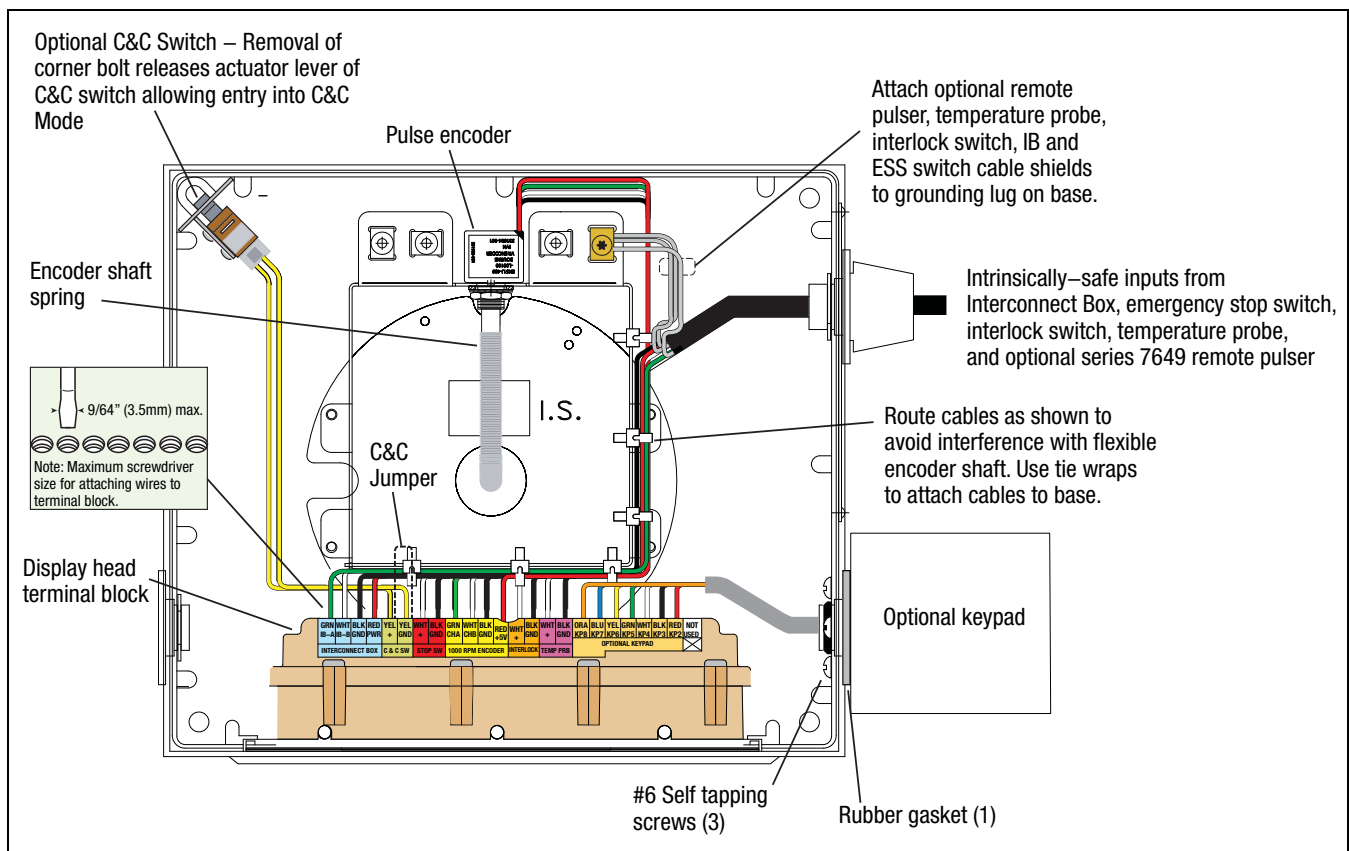

Figure 20. Display Head Cable Connections
10. Look at the base of the Display Head. Locate the Encoder Drive Spring (see Figure 20). Pull/slide the encoder spring off of the encoder shaft.
2. Slide the cord grip nut and then the bushing over the IB cable leads. Pull enough cable through so that the leads reach the terminal block on the display assembly and can be tie wrapped to the pulse encoder mounting base as shown in Figure 20. Slide the tapered end of the bushing into the cord grip, then screw on the cord grip nut and tighten securely.
3. Attach the four-wire IB cable to the terminal block where shown in Figure 20. Attach the drain wire of the IB cable to a grounding lug on the Pulse Encoder mounting base.
4. If you have the optional temperature probe and/or ESS switch, remove the lower cord grip nut and slide it, then the tapered bushing, over the temperature probe and/or ESS switch cable. Pull enough cable through so that the leads reach the terminal block on the display assembly and can be tie wrapped to the pulse encoder mounting base as shown in Figure 20. Slide the bushing into the cord grip and then screw the cord grip nut onto the cord grip and tighten securely. Attach the shield of the temperature probe cable and/or ESS switch cable to a grounding lug on the pulse encoder mounting base.
1. A C&C Mode wire jumper (see Figure 20). To enter C&C mode, remove either end of the jumper from the terminal block (C&C SW). To exit C&C mode, reconnect the jumper end to the terminal block.
2. An optional C&C corner switch assembly (P/N 845900-018) that fits into one corner of the Display Head's housing (see Figure 20). To enter C&C mode, remove the corner bolt from the Display Head's cover. To exit C&C mode, replace the bolt. When using the corner switch, remove the C&C jumper.
Figure 20 shows the installation and wiring of the optional keypad. To attach the keypad housing mounting screws, you will need to pull/slide up the display assembly away from the Display Head. Insert the keypad wires through the center hole in the gasket, slide the gasket down against the keypad and align its three holes with the mounting holes in the keypad. Hold the keypad against the Display Head and screw in the 3 mounting screws, replace the display assembly and then connect the keypad wiring to the terminal block as shown in Figure 20. The screws are self-tapping. The user may want to pre-tap the holes using the screw to ease installation.